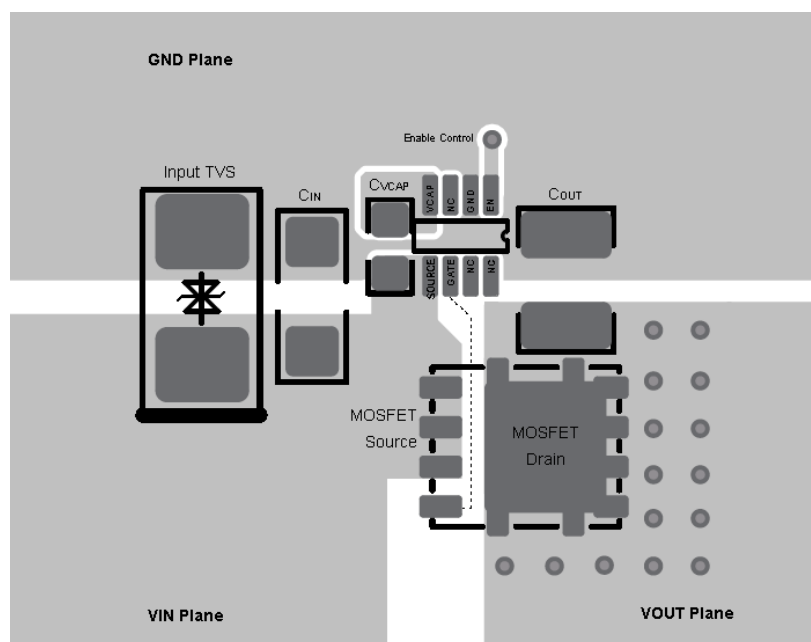

Figure 10. TSOT-23-8 Layout Example
- Acceptable results can be obtained with different layout designs, but the layout in Figure 10 is a recommended approach for achieving good performance.